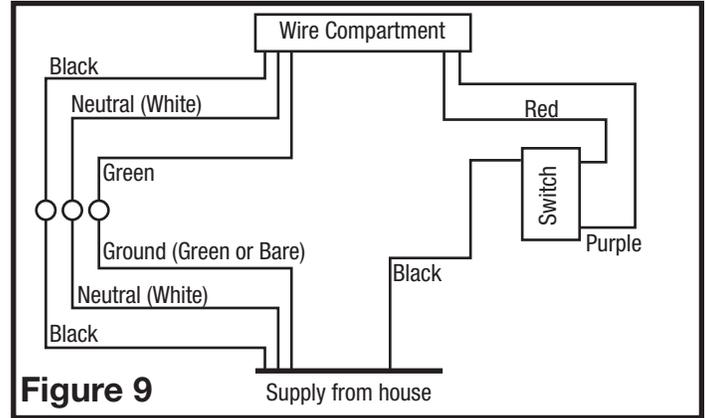

Figure 9
3. **Continuous Ventilation:** For two speed fans wired for continuous ventilation, connect the White wire of the fan to the White (Neutral) wire from the power source. Connect the ground wire from the house to the green wire from the fan housing. Connect the Black wire of the fan to the Black wire (Hot) from the power source. Using a properly grounded standard duplex toggle switch (such as Leviton 5224-2W, not included) connect the Black wire from the supply to one side of the top and bottom switch. Connect the Red wire (light) from the fan housing to the other side of the top switch and connect the Purple wire (night light) from the fan housing to the other side of the bottom switch (**Figure 9**).